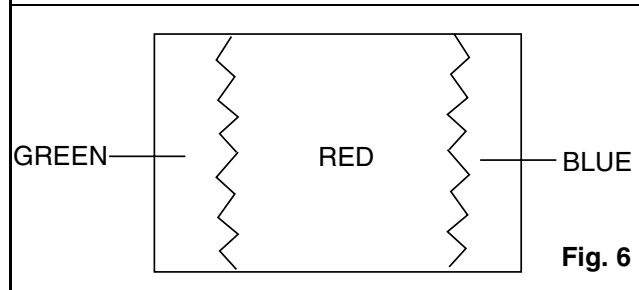

Fig. 6
6. Loosen the Ring Lock and adjust the Purity Magnets so that a red field is obtained at the center of the screen. Tighten Ring Lock. (See Fig. 6,7.)